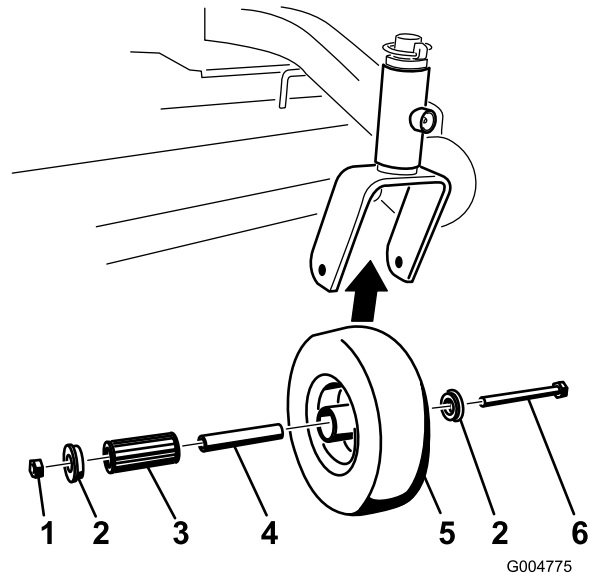

Figure 46
1. Remove the locknut and wheel bolt holding the caster wheel to the caster fork (Figure 46).
2. Remove one bushing, then pull the spanner bushing and the roller bearing out of the wheel hub (Figure 46).
3. Remove the other bushing from the wheel hub and clean any grease and dirt from the wheel hub (Figure 46).
4. Inspect the roller bearing, bushings, spanner bushing and the inside of the wheel hub for wear. Replace any defective or worn parts (Figure 46).
7. Place the second bushing into the wheel hub (Figure 46).
9. Tighten the locknut until the spanner bushing bottoms against the inside of the caster forks (Figure 46).